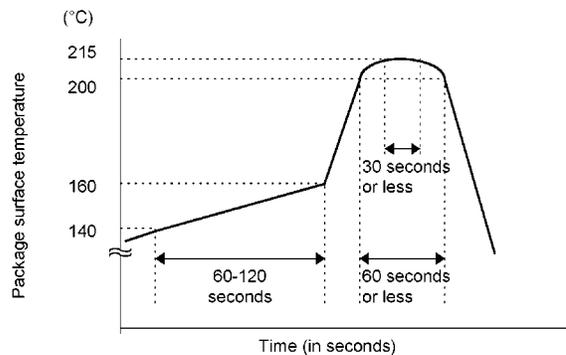

Figure 3.5.4 Example temperature profile for vapor phase reflow
- (c) Refer to Figure 3.5.4 for an example of a good temperature profile for vapor phase reflow soldering.